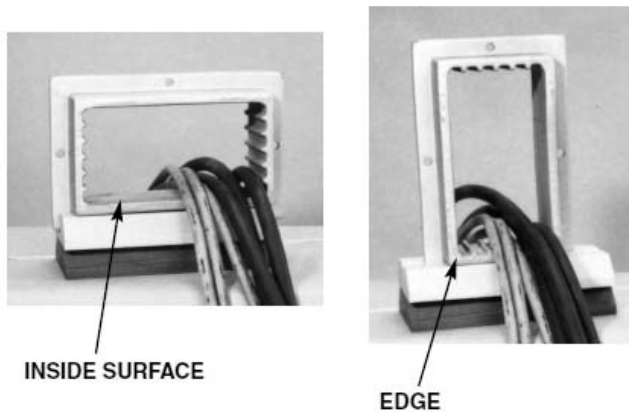

Figure 1.
1. All inside surfaces of frame and edges of frame opening must be free of grout, dust, or foreign materials (see Figure 1).